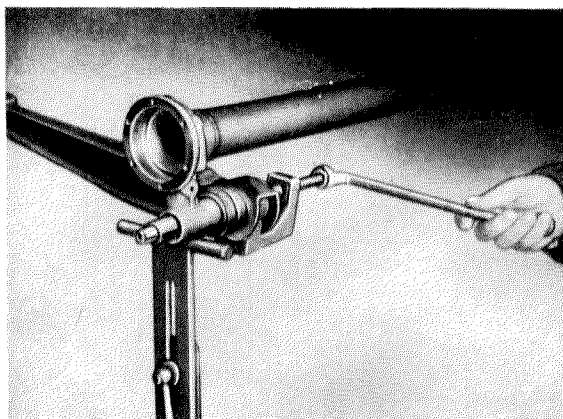

Fig. 35 — 4/9
30. Use Puller 120 589 05 33 to pull off the torque arm (Fig. 35 — 4/9) and take off the tightening washers (36) and (35) (Fig. 35 — 4/8).